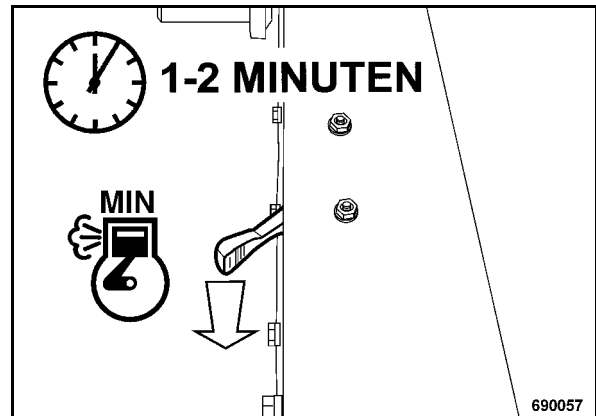

Fig. 19
- After starting take the throttle lever back to position "MIN" (Fig. 19).